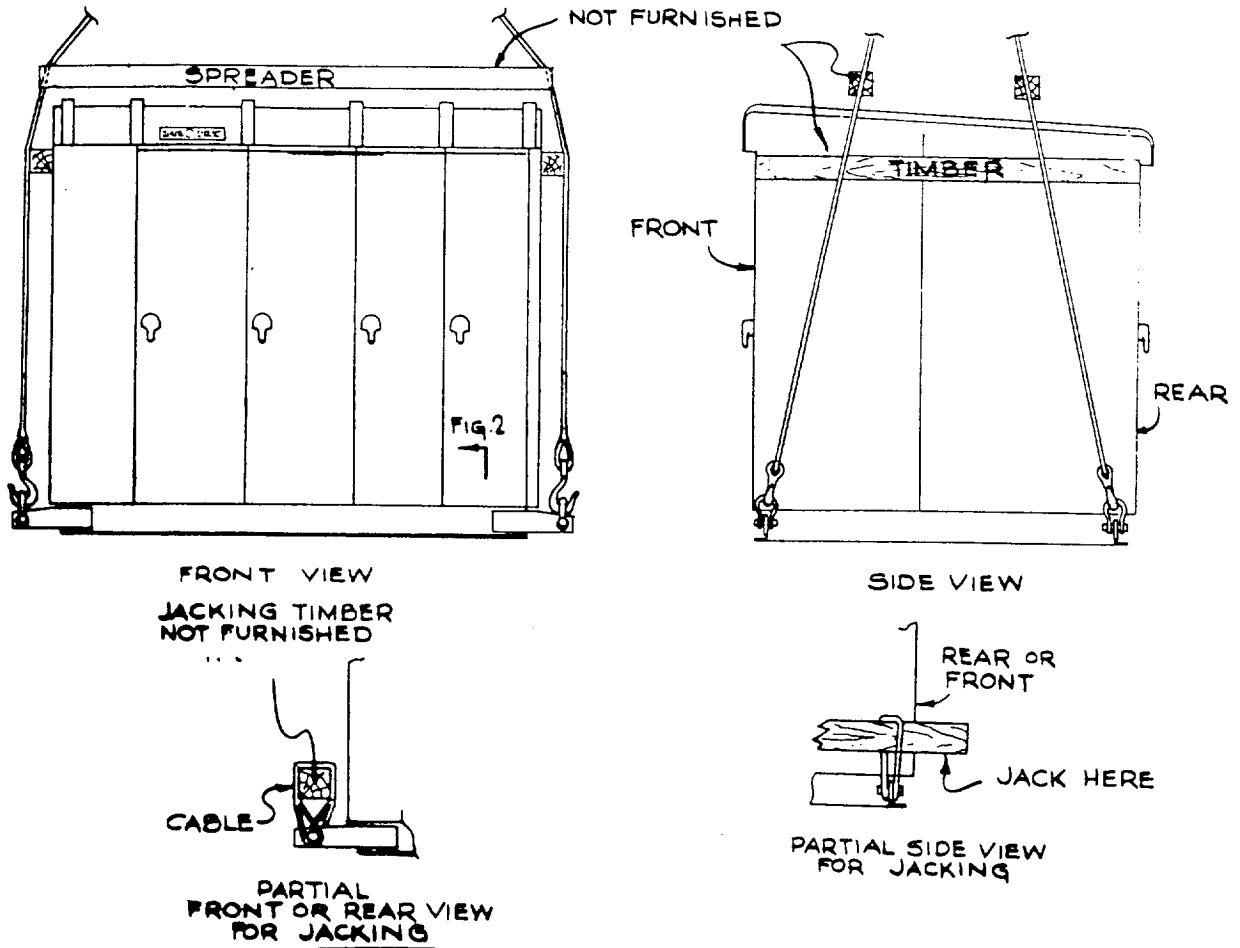

Fig. 10 (0673D0500-003-3) Methods Of Handling Outdoor Equipment.
2. The switchgear packages should be placed on its foundation with the aid of crane or jacks as shown in Fig. 9 for indoor equipment and Fig. 10 for outdoor equipment.
Methods of handling outdoor switchgear, shown in Fig. 10, are much the same as for indoor equipments except that lifting plates are provided at the base of the structure. The lifting plates should be removed after the equipment is permanently anchored, so that passageway at the ends of the equipment will not be obstructed.